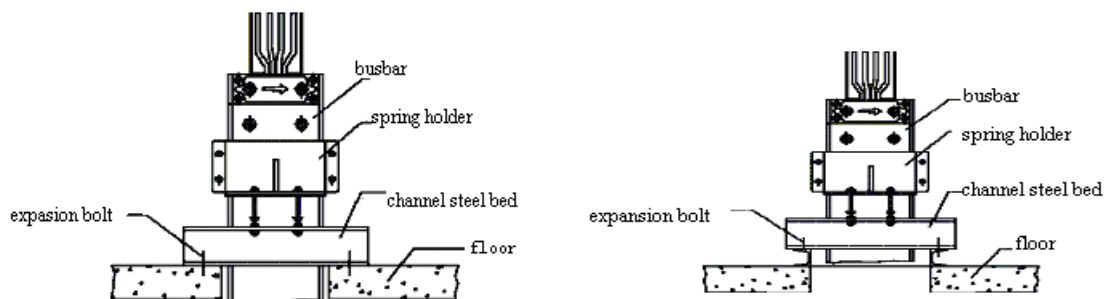

Fig 2.6
- A. Two types for front installation of spring hangers. Please refer to the Fig 2.6.